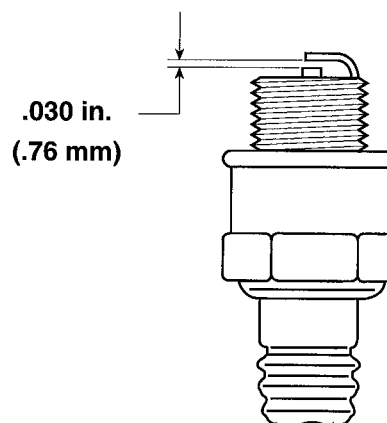

Figure 20
2. Set spark plug gap at .030 inch (.76 mm) (Fig. 20).